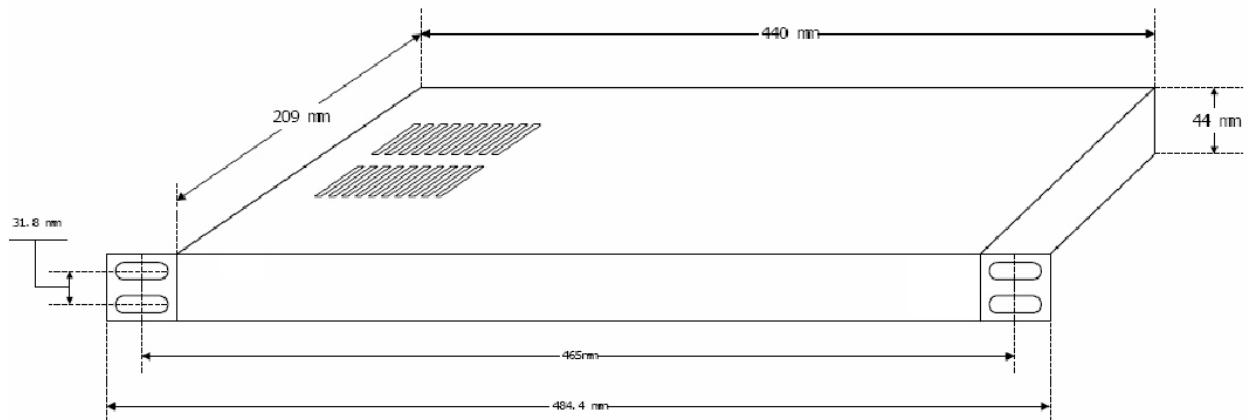

Fig. 7 Mechanical dimensions
XL-TDM2E1B can be placed at the table top or mounted on a 19" rack. If it is to be mounted on the rack, the four (4) 10mm-high stands should be removed with a screw driver. The mechanical dimensions of XL-TDM2E1B is given in Fig. 7.